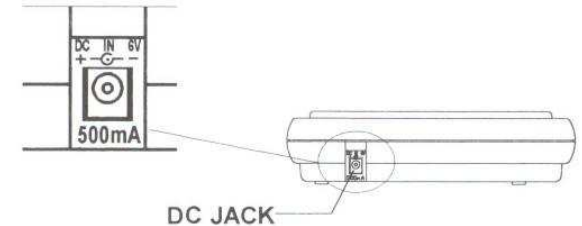

FIG. 2.
4. Always make sure the specification of the plug adaptor is **DC 6V 500mA** (Fig. 2.) and it is in good condition before use.